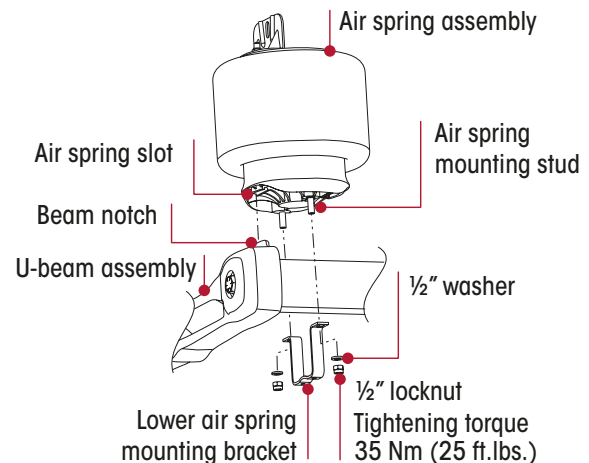

Figure 65: PRIMAAX EX Air Spring – Integrated End Cap
9. Remove both the lower air spring mounting brackets to disconnect both air springs from the cross tube. Refer Figure 65.